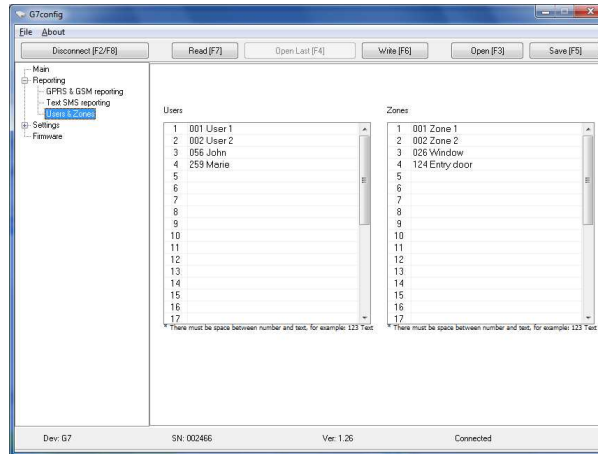

Figure 14 View of window Users & Zones
- Select the desirable message filter from the list [**Send SMS which**]. If the filter [**Described Only**] is selected, Security system events that described in the list [**Users & Zones**] (see Figure 14) will be sent to subscriber who is able to receive messages about Security system alarming/restoring. If the filter [**All**] is selected, Security system events' filtering is disabled.
7.1.12 Fill lists in the window **Reporting/Users&Zones** for finishing creation of SMS messages texts that will be transferred to mobile phone (see Figure 14).